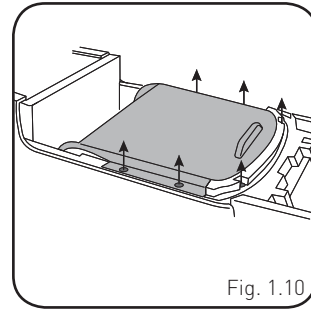

Fig. 1.10
11. Remove the six (6) 7mm screws securing the cupholder assembly. Remove the cupholder cover. (Fig. 1.10)